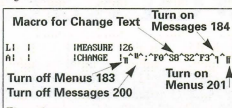

Figure 3
- You'll add the keyboard macro sequence to the command field. At the start and end of the macro string, you'll need to enter a couple of ASCII characters to turn off the menus and messages. This technique masks the macro run faster and avoids the annoying blinking of menus. To type in ASCII characters, hold down the [Alt] key (and keep it down) while you type in a number. When you release the [Alt] key, the ASCII character appears. Their location is shown in Figure 3.
2. Hold down the [Alt] key while you type the number: 183. Now, release the [Alt] key. (See Figure 3).
- number: 200. Release the [Alt] key. (See Figure 3).
6. To finish the macro, add the closing characters that turn the menus and messages back on. Hold down the [Alt] key while you type the number: 184. Release the [Alt] key. The character should look like the first one noted in Figure 3.
8. Now, hold down the [Alt] key and type the last number: 201. Release the [Alt] key. This character should look like the ones indicated in Figure 3.